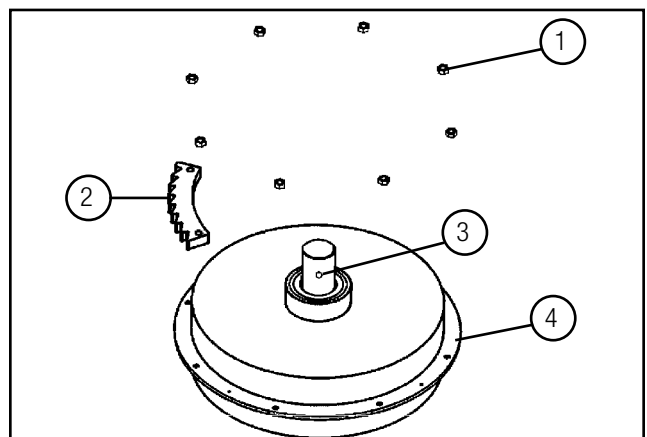

Figure 21-3
12. Remove the eight 1/4-20 Keps Nuts that fasten the Spring Motor to the Spool. Remove the Ratchet Teeth, making note of their position(s) if present, and set aside. See **Figure 21-3**.
13. Mount the new Spring Motor to the Spool. See **Figure 21-3**.
14. Remount, making sure the hole in the shaft is aligned to the set screw hole in the frame hub. Torque the Spring Motor Nuts to 4 ft-lbs. Secure the 1/2-13 set screw in the Frame Hub to 28-35 ft-lbs using a 1/4 Hex (Allen) wrench. See **Figure 21-3**.